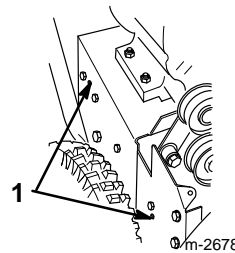

Figure 31
16. Install the two screws that secure the auger brake arm assembly. Ensure that the tabs fit into the holes in the left side of the snowthrower (Fig. 31).
- Install the two screws that secure the auger brake arm assembly. Make sure that the tabs fit into the holes in the left side of the snowthrower (Fig. 31).